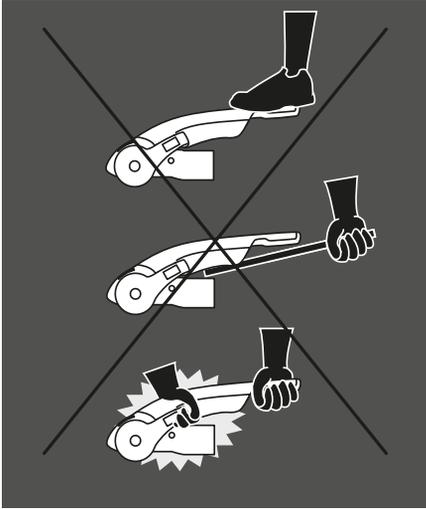

Figure 11 - How not to operate the stabiliser handle
2. Press stabiliser lever down by hand force only. DO NOT use your foot or an extension bar, this will damage the components (Fig 11).
3. When opening or closing the stabiliser lever, please ensure your hand does not touch the coupling handle - you may accidentally trap your fingers (Fig 11).